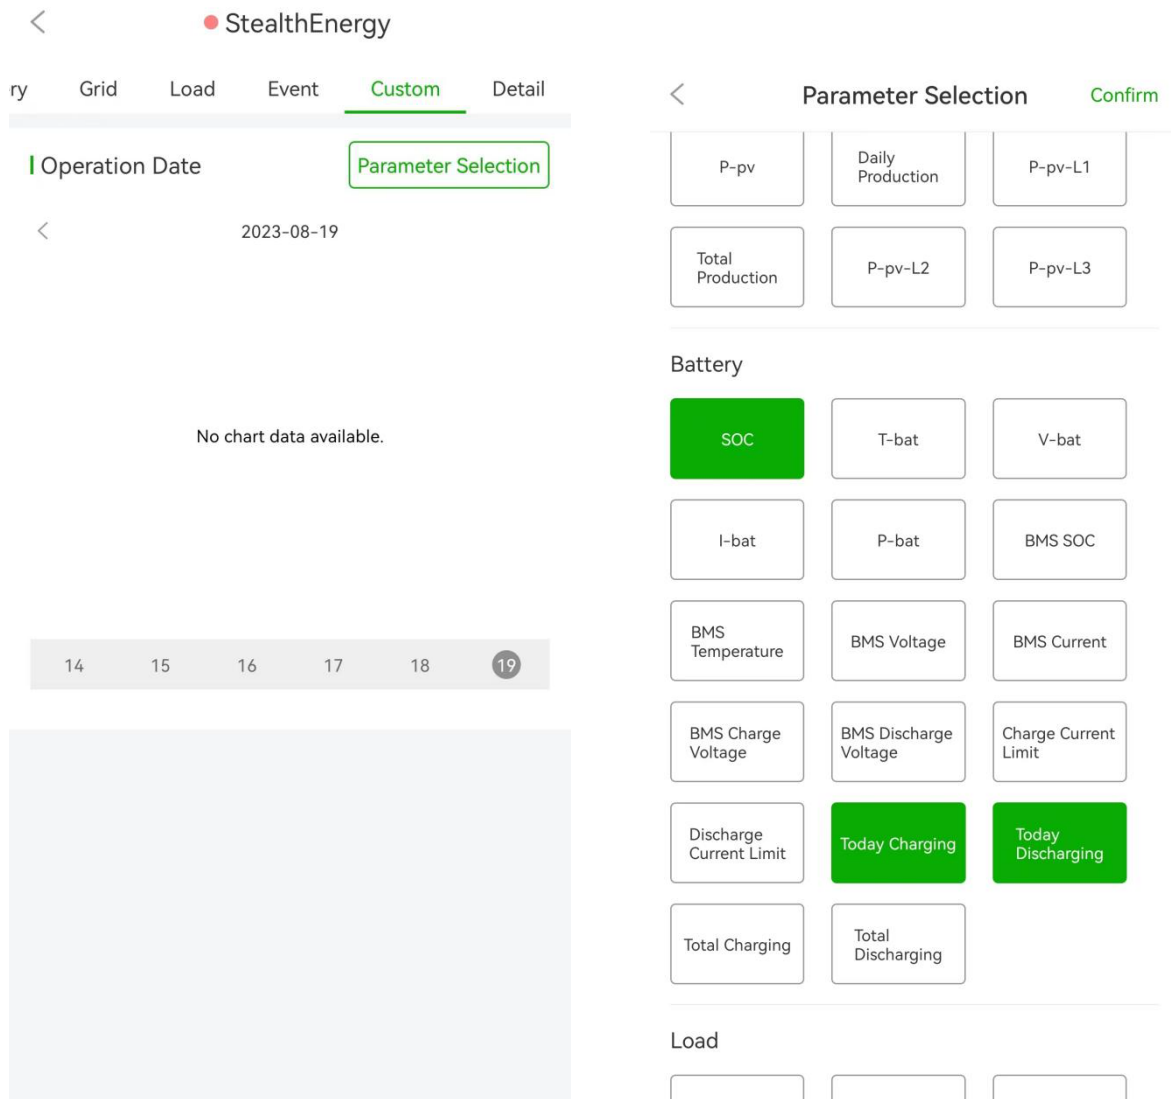

Figure 7-2 Equipment information
3. You can click any device to view device information, as shown in Figure 7-2.